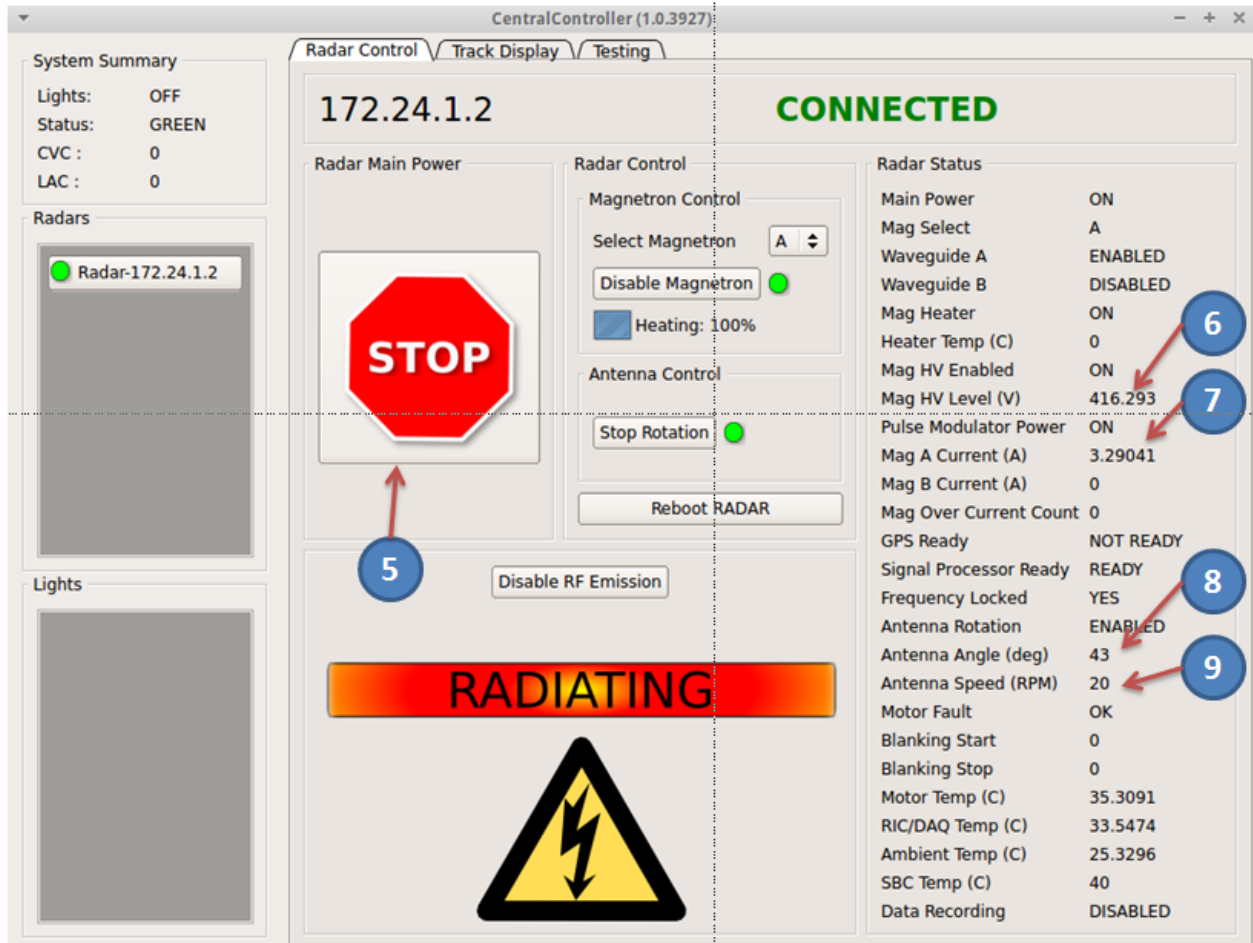

Figure 11. Radar Control GUI showing High Voltage ready feature.
- Once “Enable RF Emission” is selected, the GUI will indicate Radiating and Radar Status will display several key operating parameters as shown in Figure 11:
Several important features are shown in Figure 11 as follows: